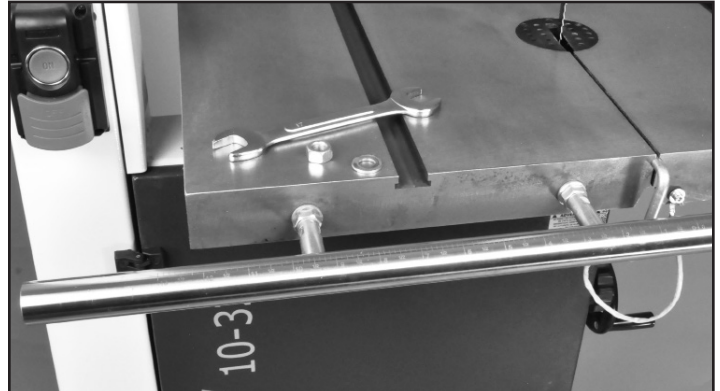

FIGURE 2
2. Mount the fence Guide Rail (#12) onto the front table edge with the two fence Connecting Rods, Nuts and Washers (#13,14, 5) Fig. 2.